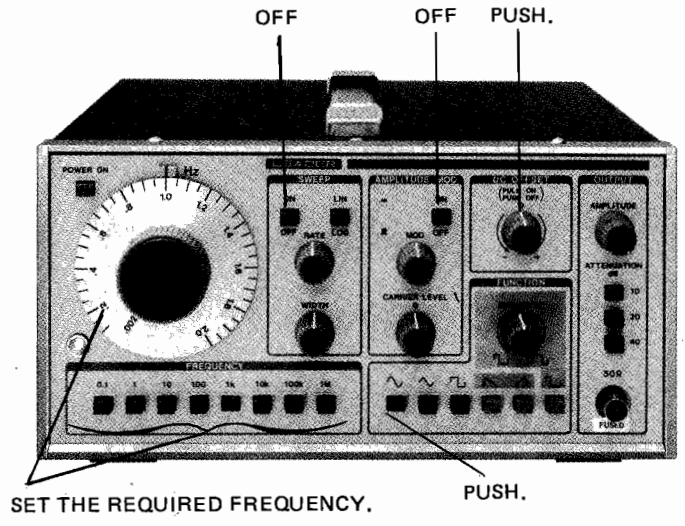

Figure 5-1. Sine Wave Operation
2. Set the front panel controls as shown in Fig. 5-1.